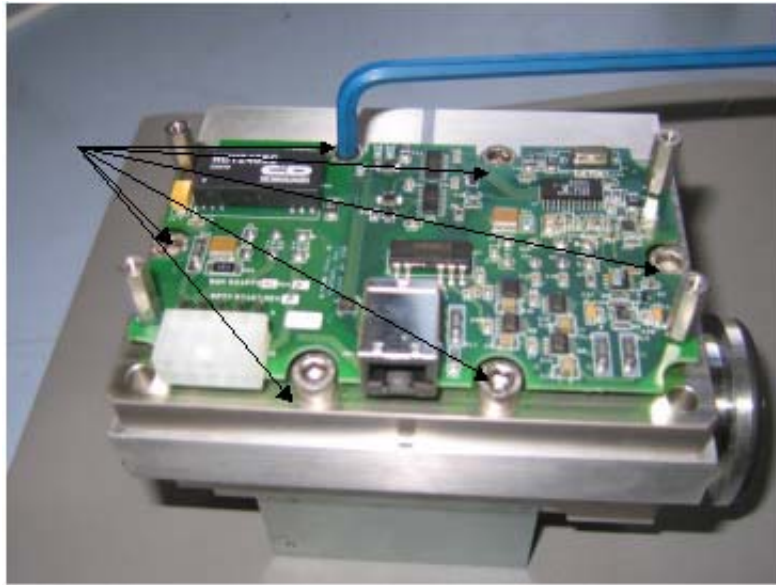

Figure B-51 Spectrometer Header Assembly Screws
7. Using an M5 allen wrench, remove the six screws holding on the spectrometer header assembly (Figure B-51).